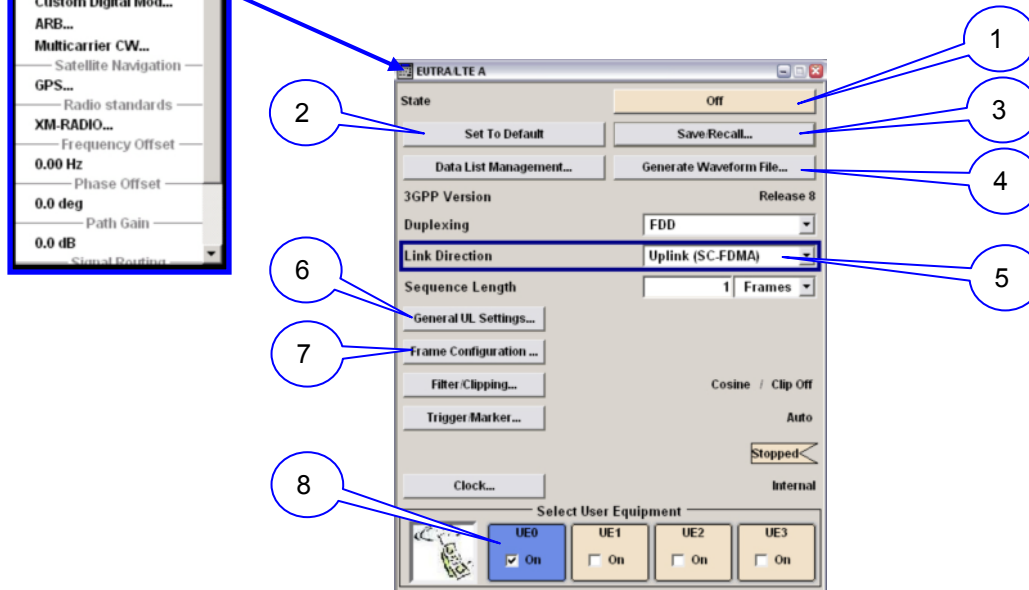
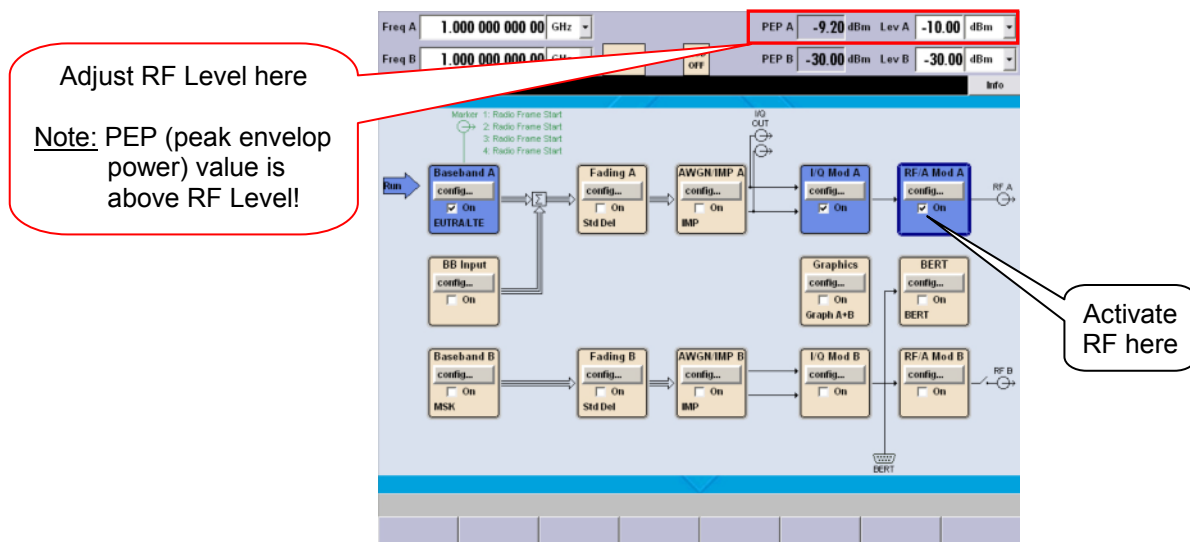

Figure 5-2 SMU EUTRA/LTE BB personality menu
Figure 5-7 SMU EUTRA/LTE UL settings – BB and RF active
- EUTRA/LTE software menu opens (Figure 5-2)
- d) Select signal link direction: Uplink (Figure 5-2: Flag 5)
- e) Make general UL settings (Figure 5-2: Flag 6)
- f) Configure EUTRA/LTE frame (Figure 5-2: Flag 7)
- g) Configure user equipment: CAZAC parameter (Figure 5-2: Flag 8)
- h) Enable BB (Figure 5-2: Flag 1) and RF (Figure 5-7)
After setting up the EUTRA/LTE UL signal the BB has to be enabled by toggling the state button (Figure 5-2: Flag 1). Further, in order to generate a output signal, the SMU RF block has to be activated as well (Figure 5-7).